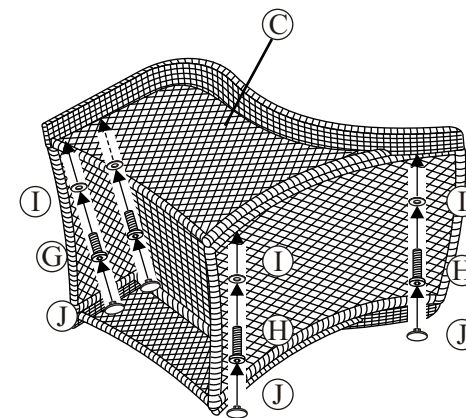
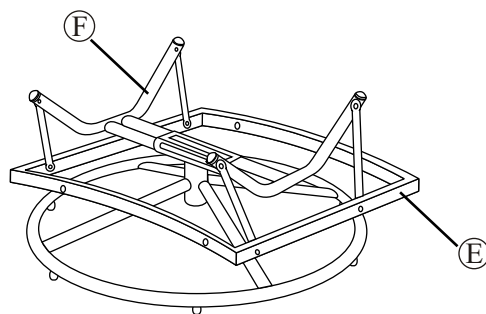
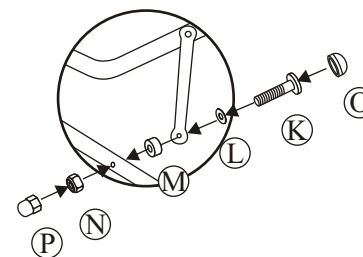

**Fig.1**
**Fig.2**
**Fig.3**
Attach the seat frame to the back frame by using four 5/16"x40 mm bolts and washer as shown in **Figure 1**. Guide these bolts through the holes in the seat frame, into the fixed nuts already in place in the back frame. **Do not over tighten.**
Attach love seat arm by inserting two 5/16"x25 mm bolts with washers through the holes in front seat portion of the love seat frame and into the holes in the love seat arm shown in **Figure 2**. Attach back of love seat arm by inserting two 5/16"x40 mm bolts with washers through holes in the back portion of love seat frame and into the holes in the rear portion of the love seat arm as shown in **Figure 2**. **Hand tighten only.** Repeat for the opposite side.
**Step 2:** Attach the back frame to right arm by using two 5/16"x40 mm bolts and washers as shown in **Fig.1**. Guide the bolts through holes in back frame, into pre-drilled holes in the right arm. **Hand tighten only.** Attach the seat frame to right arm and back frame by using four 5/16"x25 mm bolts and washers as shown in **Fig.2**. **Hand tighten only.** Attach the left arm to back and seat frame by using two 5/16"x25 mm bolts and two 1/4"x40 mm bolts and four washers as shown in **Fig.3**. **Hand tighten only.**